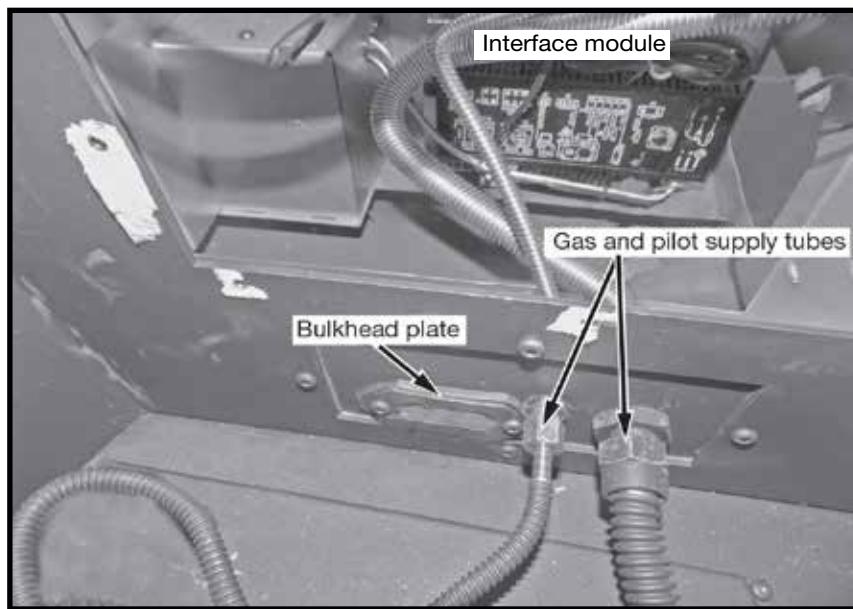

Figure 6: Attach gas supply tubes to bulkhead
5. Attach the center supply tube from the “T” and the pilot gas supply tube to the bulk head fitting and tighten (Figure 6).